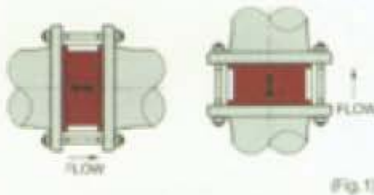

Fig.1
- Lay pipes so that the cast direction of wafer Check body corresponds with the flow direction. (Fig.1)